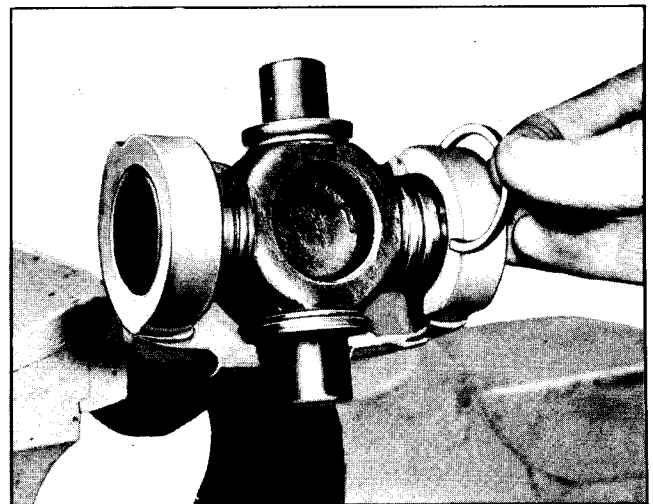

Fig. 4E-17 Installing Snap Ring Retainer
4. Install snap ring retainer in each journal with gaps toward splined yoke (Fig. 4E-17).